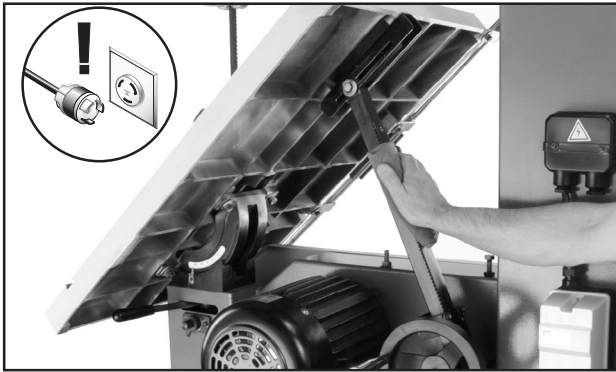

Figure 73. Example of lubricating table tilt rack and pinion assembly.
3. Move the table up to its maximum 45° angle and wipe (**Figure 73**) off all existing grease and sawdust buildup from the rack.